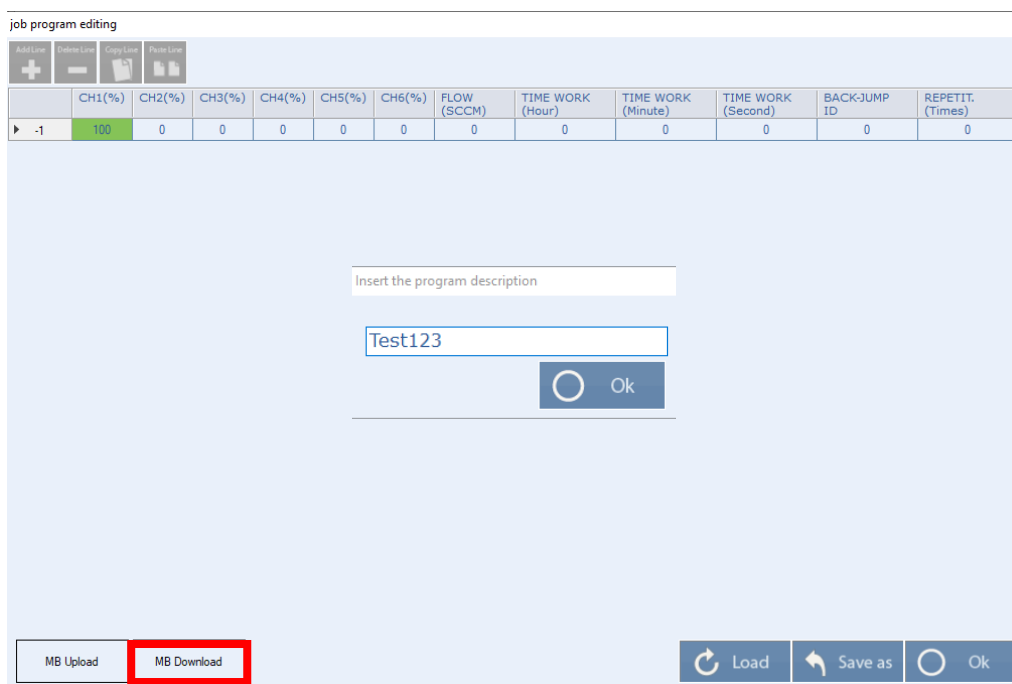

Figure 6-37
7. With the “**MB Download**” button is possible to download the program written on the instrument to use it standalone. (Figure 6-37)